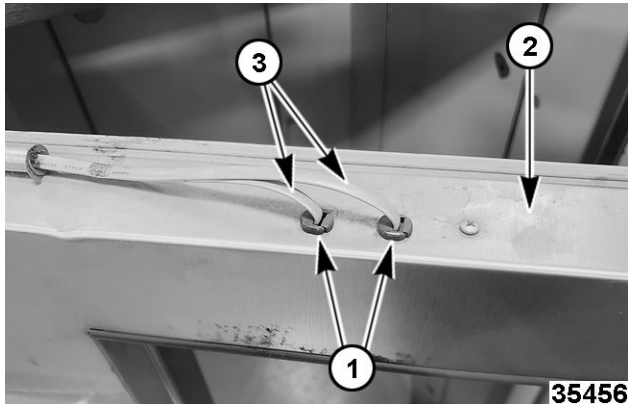

Fig. 74
5. Install strain relief bushings (1, Fig. 74) into top of door (2, Fig. 74) around each control cable (3, Fig. 74). Seal with NSF approved silicone to obtain watertight seal around control cables.